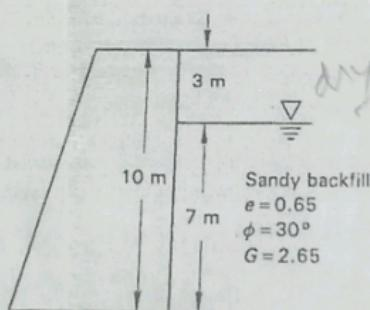

Figure 1.
B. Derive the expression of passive pressure of purely sandy soil for a smooth retaining wall. Give neat sketch. (4)
C. What is the use of depth factor & ground penetrating radar? (2)
2. A. Explain the effect of presence of tension crack in slip surface on the stability of slope. (2)
B. A retaining wall (figure 1) 10 m high has sandy backfill with $e = 0.65$, $\phi = 30^\circ$ and $G = 2.65$. The water table is at a depth of 3 m from the ground surface. Draw the active earth pressure diagram and determine the magnitude and point of application of the total active earth pressure. (10)